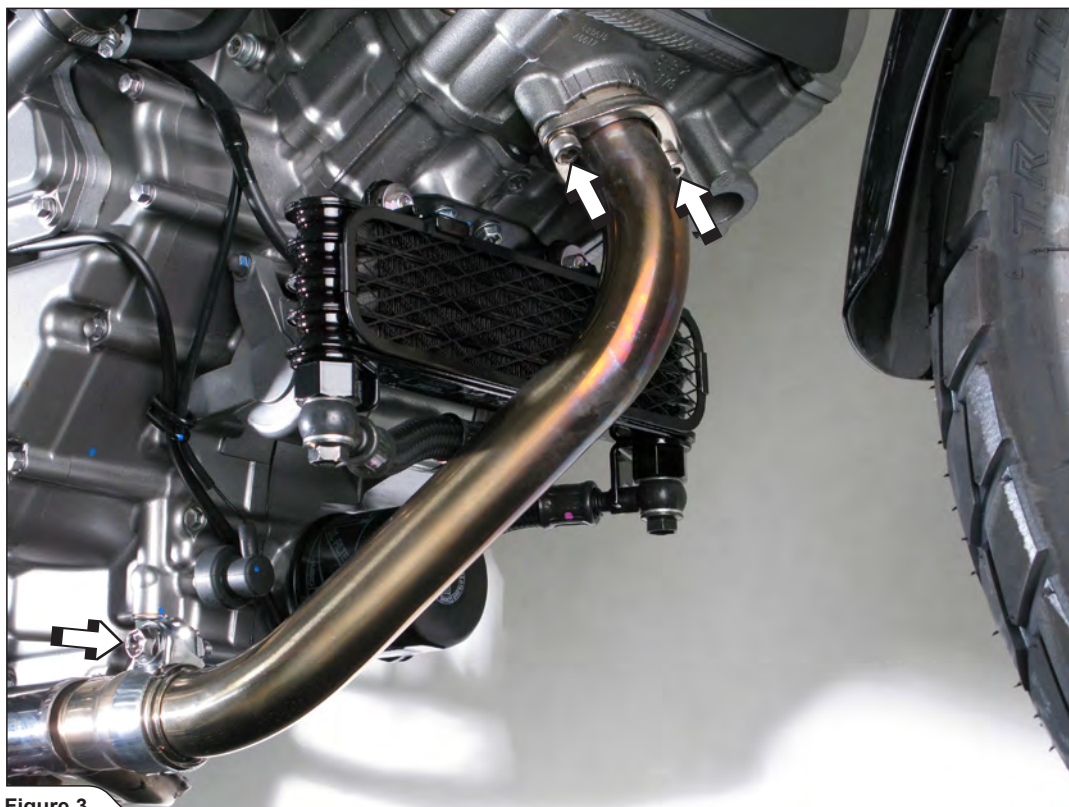

Figure 3
4. Untighten the marked header flanges' bolts and header - collector joint clamp (Figure 3).